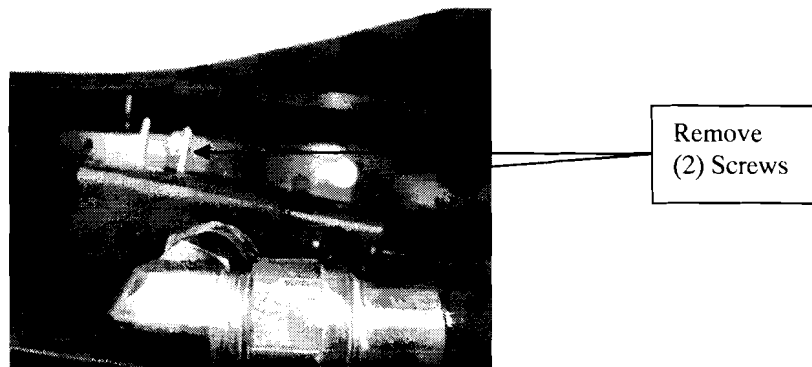

Fig.1
- Step 1.** Locate and remove the two screws holding the slideout LP manifold bracket from the slide out room bar. See Figure 1